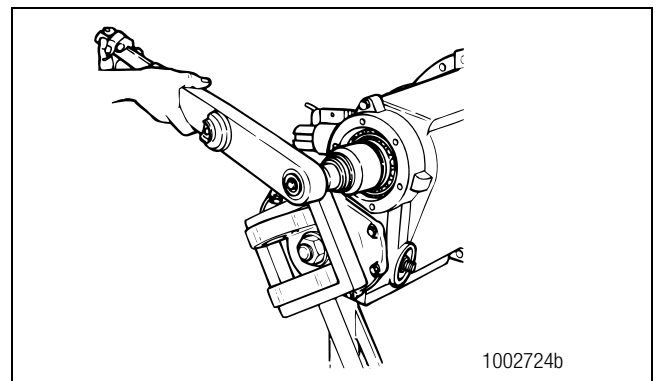

Figure 3.19
3. Use the correct tool to hold the input yoke or flange. Loosen, but do not remove, the drive pinion nut. Figure 3.19.